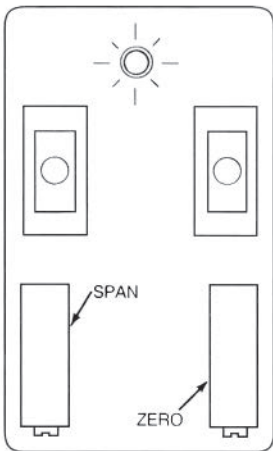

Figure 4-2. Adjustment of Span Potentiometer, Model CL-303
2. The span potentiometer (Figure 4-2) should now be adjusted so that the meter reads 5,000 volts.